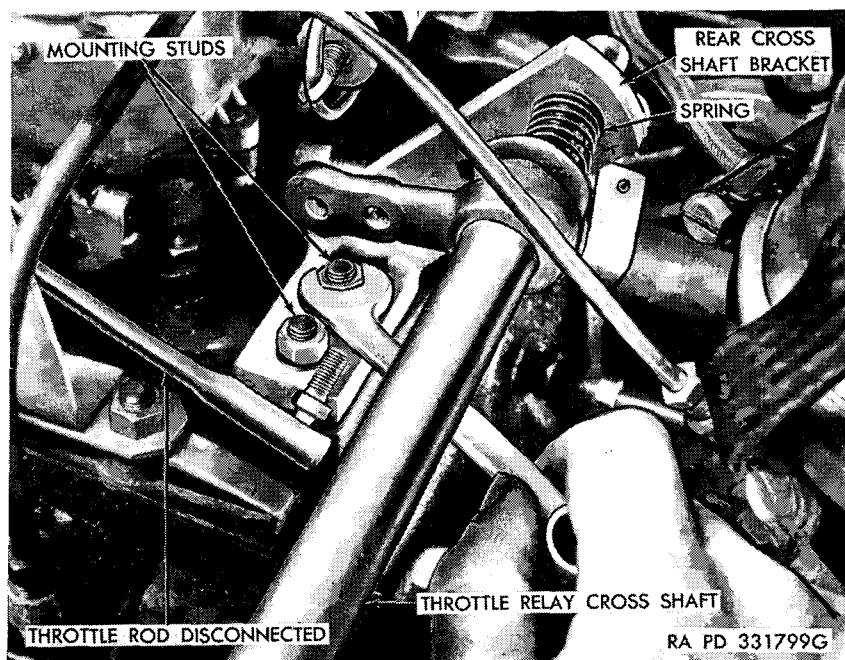

Figure 43. Disconnecting upper throttle relay cross shaft.
- (5) *Remove exhaust connection.* Remove four screws holding exhaust connection to left and right exhaust manifold; lift up connection and discard gaskets.
- (6) *Remove ignition cable conduits.* Disconnect spark plug ignition cables by pulling off suppressors. Remove four nuts holding ignition cable support brackets to manifolds. Lay brackets and conduits aside.
- (7) *Remove crankcase air cleaner.* Disconnect distributor ventilating line at crankcase air cleaner adapter. Remove two nuts and washers holding engine crankcase air cleaner to intake manifold. Loosen lower hose clamp and remove air cleaner assembly.
- (8) *Remove upper rear throttle relay cross shaft.* Remove clevis pin from lever on center of relay cross shaft. Disconnect throttle rods at cross shaft levers. Remove two nuts from left rear cross shaft bracket (fig. 43) (on engine being disassembled) and slide cross shaft out of other bracket.
- (6) *Disconnect throttle rods.* Remove nut and washer from carburetor throttle ball stud and slide out of throttle relay cross shaft (fig. 43). Remove cotter pin and clevis pin connecting lower relay rod to throttle relay cross shaft. Remove two nuts from cross shaft bracket on either intake manifold and slide cross shaft out of other brackets.